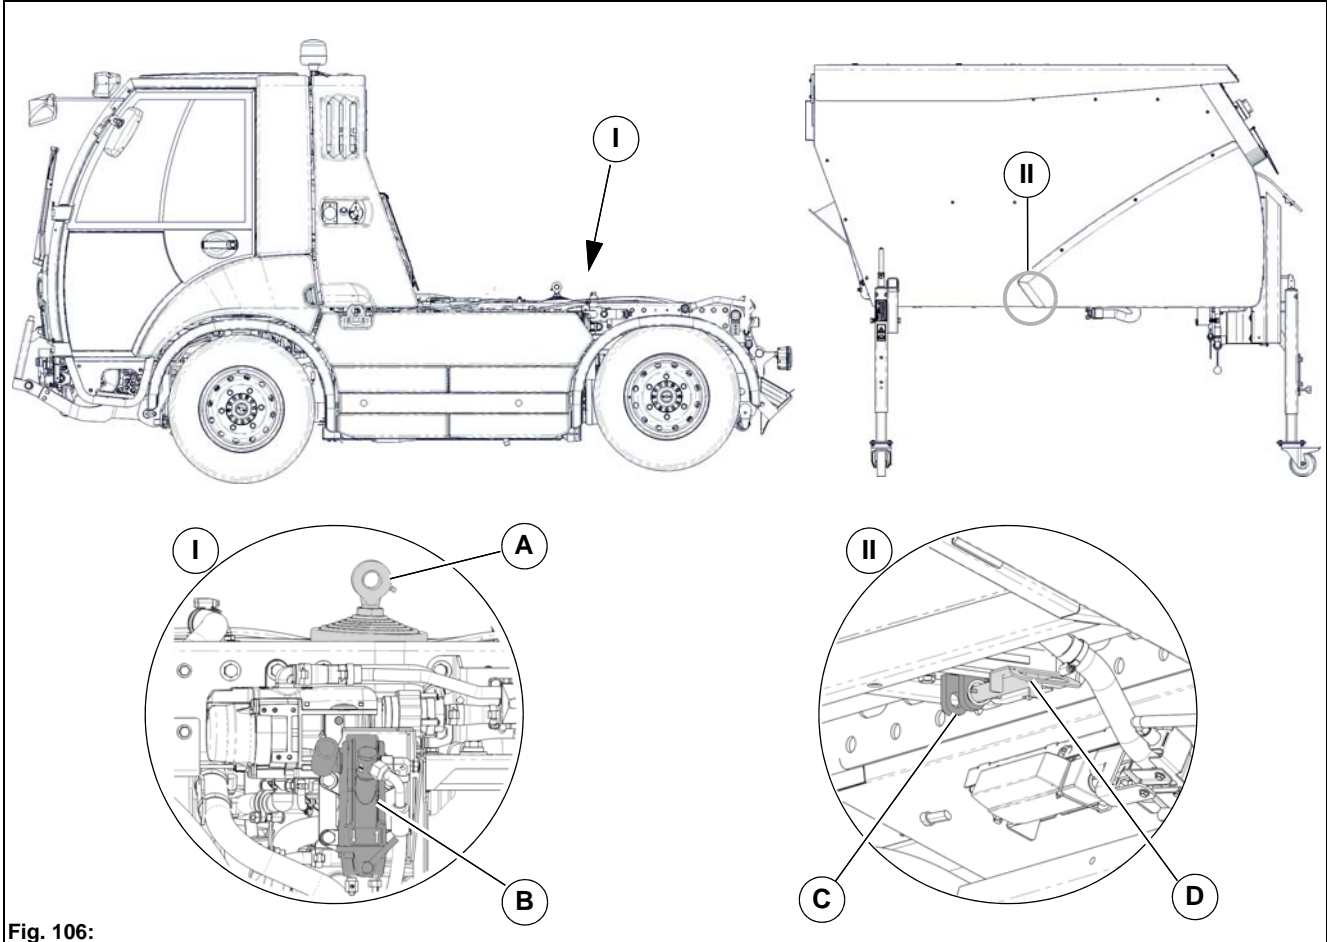

Fig. 106:
7. Raise the lifting cylinder **Fig. 106-A** with the hydraulic hand pump **Fig. 106-B** (on the right-hand side of the vehicle). Make sure the swivel head of the lifting cylinder is in alignment with the attachment **Fig. 106-C** of the dirt hopper.
8. Insert the safety pin **Fig. 106-D** into the attachment and the swivel head and secure with the locking pin.